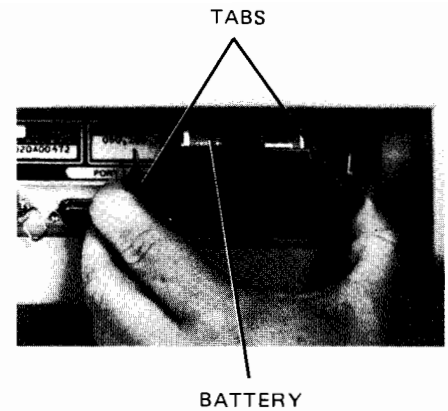

Figure 9-3. Battery Replacement.
- Squeeze the tabs (figure 9-3) toward the center of the battery support with enough pressure to disengage the flanges which hold the battery support in the terminal and pull down to free the battery support from the terminal.